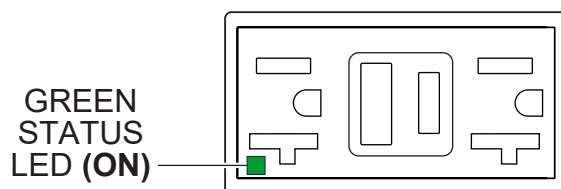

Figure 92. GFCI Receptacle (ON)
3. Verify that the **status LED** on the corresponding **GFCI receptacle** (Figure 92) is **ON (GREEN)**.